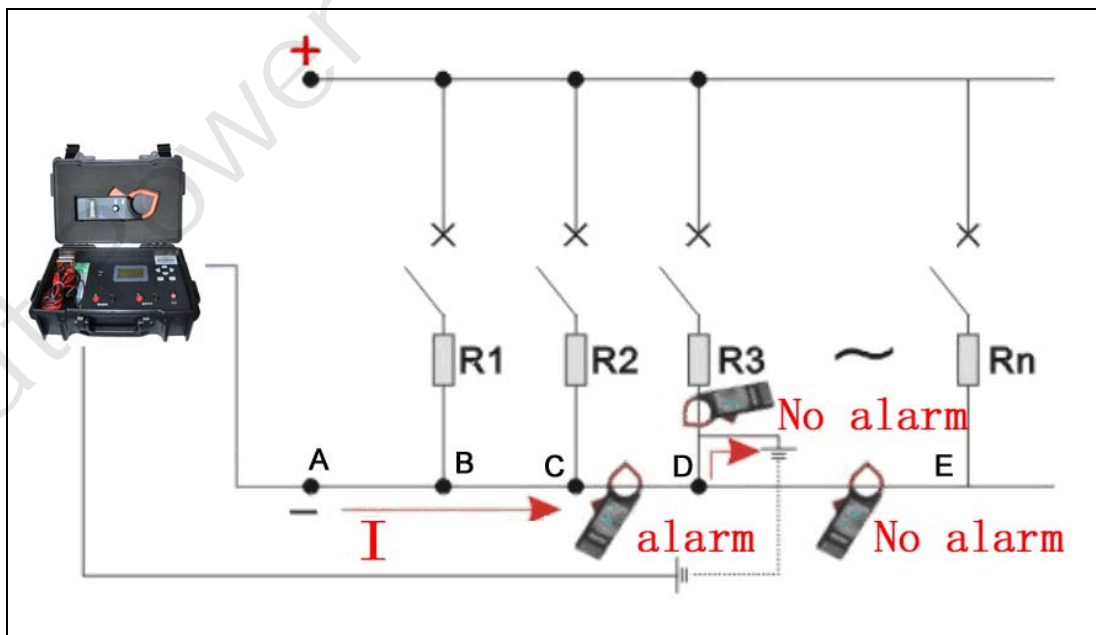

Fig 3.3
Open the receiver jaw, clamp around the busbar and move along the busbar (see Fig. 3.3 and Fig.3.3.4) from A to B, C, D and E.
1. Before the point of breakage, you will hear the sound warning from the signal receiver which is close to the busbar. The sound will be either continuous or discontinuous based on above selection. Take Fig 3.3 for example, if there is sound warning before Point D and no sound warning after Point D, then there should be circuit breakage around Point D.
2. There is always sound warning between PITE 3830 and the point of breakage (e.g.: all the way before Point D in Fig 3.3). After the point of breakage, there is no sound warning.
2. To eliminate the faulty grounding, you could choose not to move the signal receiver from the beginning of the busbar to the end. Take Fig 3.3 for example, you could narrow down by checking Point A and then Point E. If there is sound warning in Point E, then continue to check points after Point E. If there is no sound warning in Point E, then check other points between Point A and Point E.